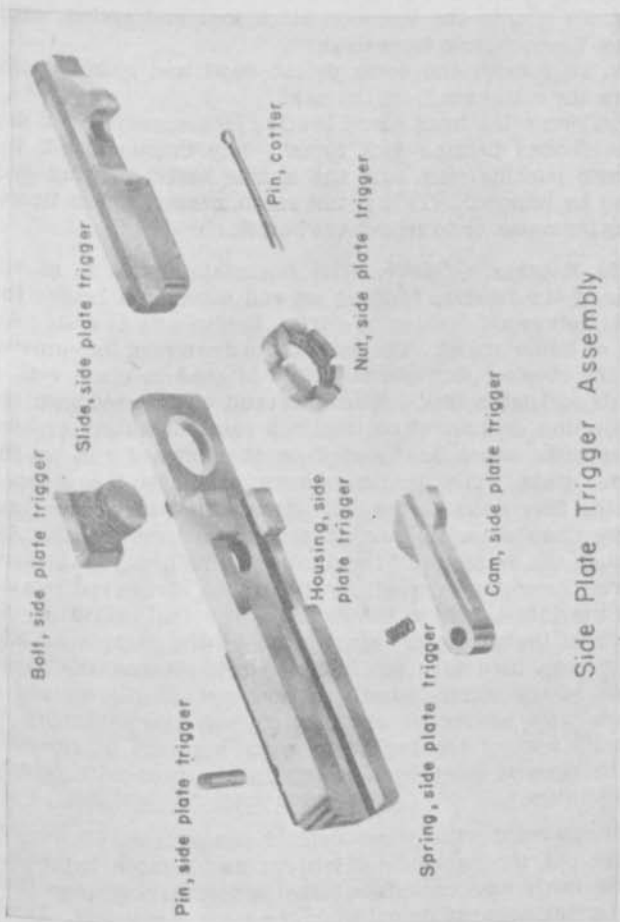

FIGURE 11.—Side plate trigger assembly.
See fig. 11.
58. DETAILED DISASSEMBLING OF CASING GROUP.—a. To remove the side plate trigger assembly from the casing, withdraw the cotter pin from the side plate trigger bolt and unscrew the side plate trigger nut. To disassemble the assembly, unscrew the side plate trigger extension screw, lift off the side plate trigger extension, and remove the side plate trigger slide spring. Push the side plate trigger slide out of its guides in the housing. Swing the side plate trigger cam upward and lift out the side plate trigger spring. The side plate trigger cam can be removed by driving out the side plate trigger pin, but this is not done unless necessary for replacement of the cam. (See fig. 11.)